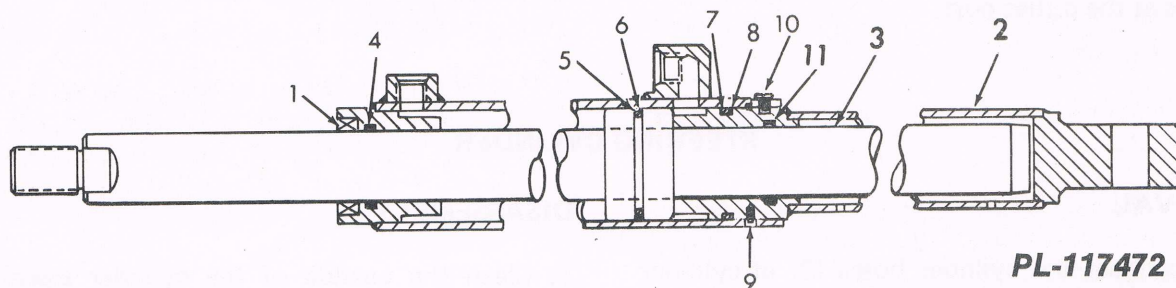

Fig. 29
3. Remove set screw (10) and lock washer from the cylinder housing. See Fig. 29.
5. Remove retaining ring (9) by rotating cylinder head (2) while working the ring out of the groove. See Fig. 29.
6. Pull the cylinder head (2) out of the cylinder housing. See Fig. 29.
7. Pull the piston rod (3) out of the cylinder housing. See Fig. 29.
8. Remove the piston seal (6) and "O" ring (5) from the piston. See Fig. 29.
9. Remove the "O" ring (7), back-up washer (8) and seal (11) from the cylinder head (15). See Fig. 29.
10. Remove the seals (1 and 4) from the cylinder housing. See Fig. 29.
1. Install the seal (4) in the cylinder housing so the seal lips face toward the inside of the cylinder. See Fig. 29.
2. Install the seal (1) in the cylinder housing bore. See Fig. 29.
3. Install the seal (11) in the cylinder head so that the seal lips face toward the inside of the cylinder. See Fig. 29.
4. Install the back-up washer (8) and "O" ring (7) on the cylinder head (2) so that the back-up washer is towards the outside of the cylinder. See Fig. 29.
5. Apply a small amount of hydraulic oil to the groove in the piston and install "O" ring (5). Soak the seal ring (6) in water heated to $83 - 104^{\circ}\text{C}$ ($180 - 220^{\circ}\text{F}$) Until it is pliable and then install it over the "O" ring (5). See Fig. 29.
6. Insert the piston rod (3) into the cylinder housing, threaded end first. See Fig. 29.
7. Insert the cylinder head (2) into the cylinder housing until the retaining ring groove in the head aligns with the retaining ring hole in the housing. See Fig. 29.
8. Secure the cylinder in the vise as shown in Fig. 28. Hook the retaining ring (9) in the head (2) and work it into the cylinder housing by turning the head. See Fig. 29.
9. Turn the head (2) until the set screw hole in the cylinder housing aligns with the notch in the head. Install the screw (10) with lock washer and torque to 3-4 N·m (2-3 ft-lbs). See Fig. 29.